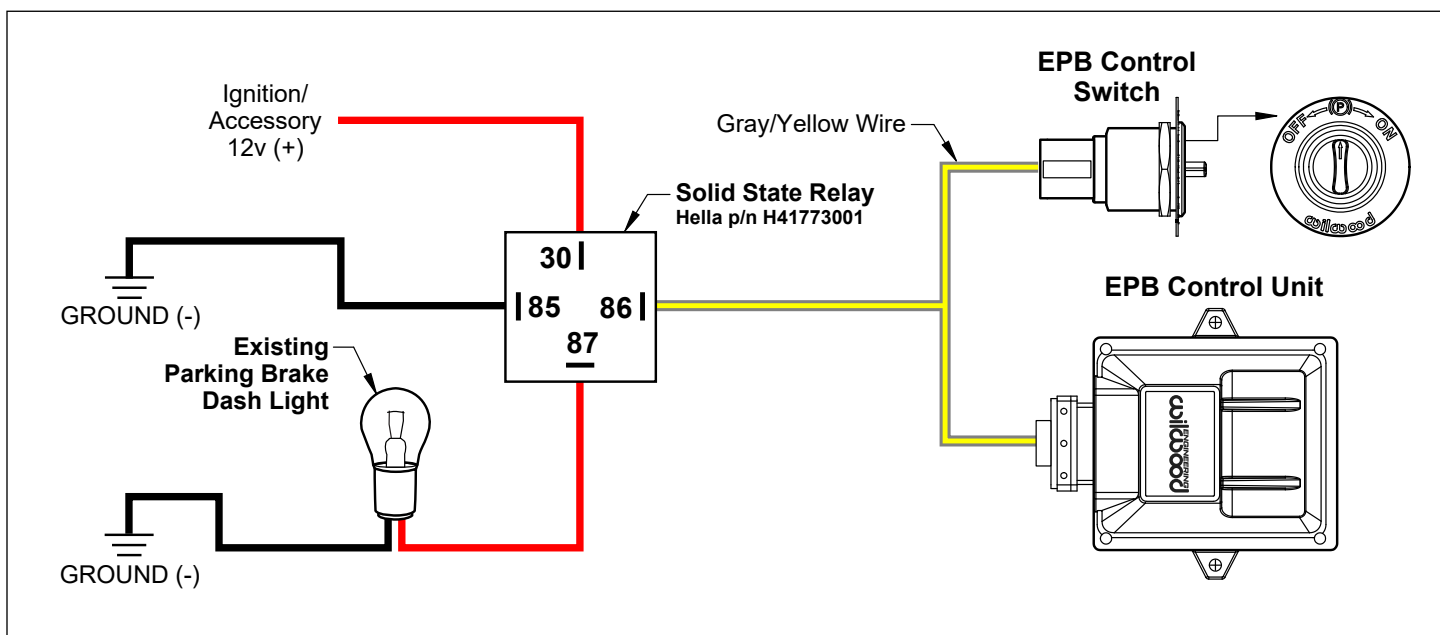

Figure 5. EPB/Parking Brake Dash Light Wiring Diagram
- Wire in the solid-state relay and dash light as shown in Figure 5, page 7.